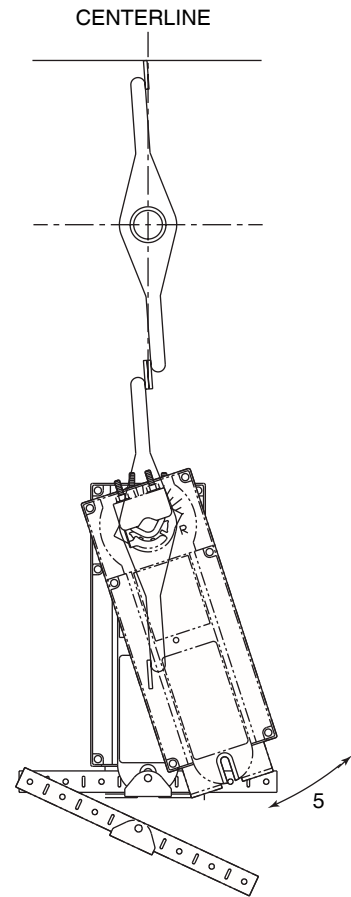
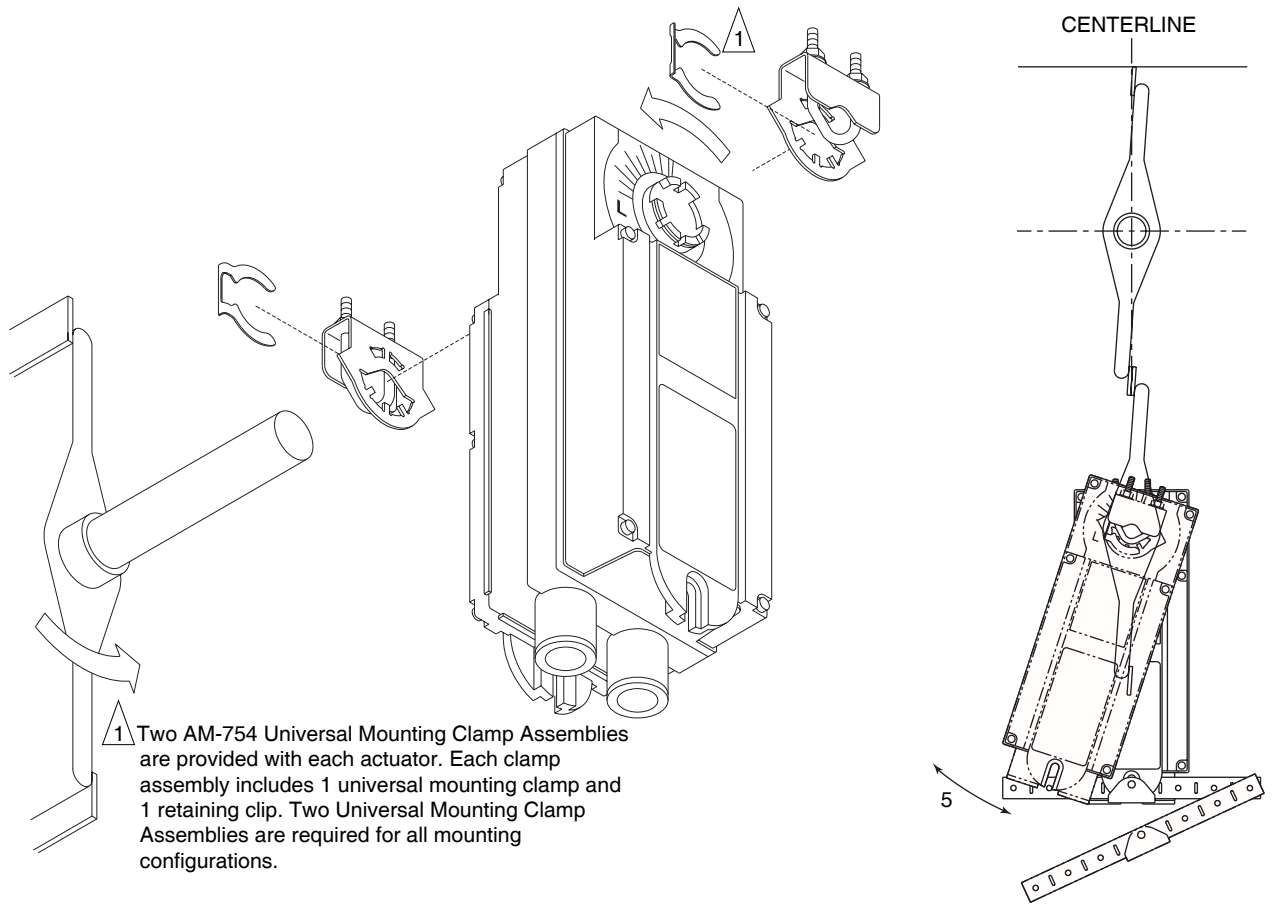

Figure-7 Long Damper Shaft Mounting with Clockwise Spring Return for Normally Closed Damper.
Figure-8 Long Damper Shaft Mounting with Counterclockwise Spring Return for Normally Closed Damper.
- If the damper shaft rotates clockwise to the closed position, mount the actuator with the side marked “R” facing the installer. See Figure-7.
- If the damper shaft rotates counterclockwise to the closed position, mount the actuator with the side marked “L” facing the installer. See Figure-8.
6. Attach one side of the anti-rotation bracket to the mounting surface with one of the screws provided. Leave the screw loose so that the bracket can be rotated. See Figure-7 for clockwise or Figure-8 for counterclockwise spring return.
7. Pivot the anti-rotation bracket away from the actuator. See Figure-7 or Figure-8.
8. Loosen the universal mounting clamps, making sure not to move the damper shaft. Rotate the actuator approximately 5° in the direction which would open the damper. See Figure-7 or Figure-8.
10. Manually rotate the actuator toward the full-closed position to apply pressure to the damper seals. See Figure-7 or Figure-8.
11. Pivot the anti-rotation bracket into place and secure the other side of the bracket onto the mounting surface with the other screw provided with the actuator. See Figure-7 or Figure-8.
12. Verify that the damper is in its full-closed position and actuator at 90° (perpendicular) to the damper shaft. See Figure-7 or Figure-8.
- If the damper shaft rotates clockwise to the closed position, it is a normally open damper and requires the actuator to be mounted with the side marked "R" facing the installer. See Figure-7.
- If the damper shaft rotates counterclockwise to the closed position, it is a normally closed damper and requires the actuator to be mounted with the side marked "L" facing the installer. See Figure-8.
9. Attach one side of the anti-rotation bracket to the mounting surface with one of the screws provided. Leave the screw loose so that the bracket can be rotated. See Figure-7 for clockwise or Figure-8 for counterclockwise spring return.
10. Pivot the anti-rotation bracket away from the actuator. See Figure-7 or Figure-8.
11. Loosen the universal mounting clamps, making sure not to move the damper shaft. Rotate the actuator approximately 5° in the direction which would open the damper. See Figure-7 or Figure-8.
13. Manually rotate the actuator toward the full-closed position to apply pressure to the damper seals. See Figure-7 or Figure-8.
14. Pivot the anti-rotation bracket into place and secure the other side of the bracket onto the mounting surface with the other screw provided with the actuator. See Figure-7 or Figure-8.
15. Verify that the damper is in its full-closed position and actuator at 90° (perpendicular) to the damper shaft. See Figure-7 or Figure-8.